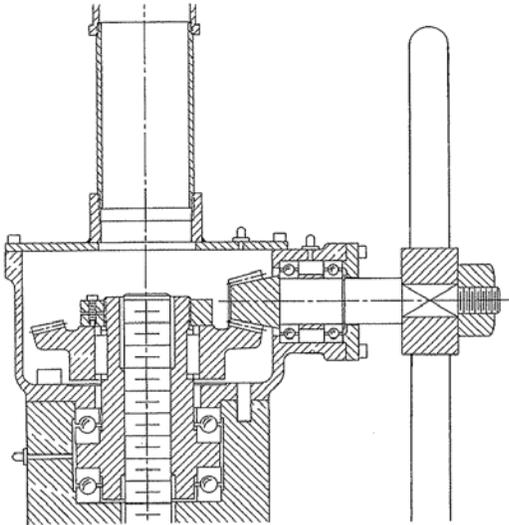
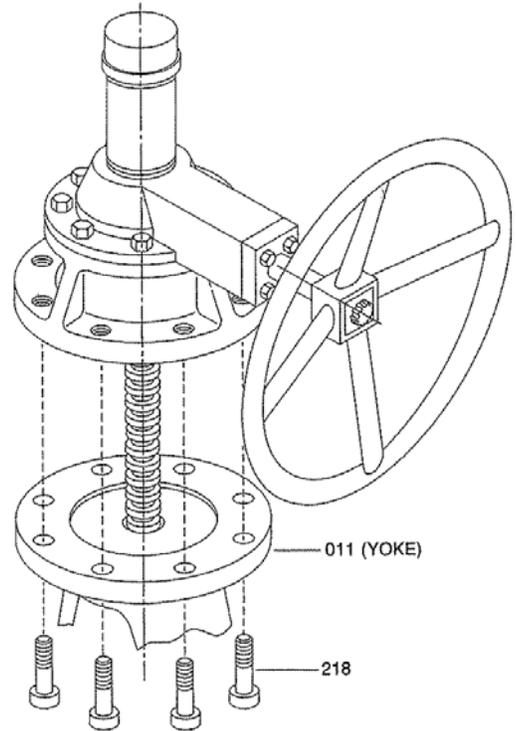

Figure 8
Figure 9
Two types of gear actuators have been supplied on Anchor/Darling valves. Earlier model valves may have been supplied with gear units manufactured by Anchor/Darling (Fig. 8). This type of unit requires complete disassembly in order to remove it from the yoke. Specific instructions on disassembly were provided with the original equipment. Anchor/Darling service engineers can provide duplicates of this information when provided with the original order or drawing number. Later model valves (Fig. 9) are supplied with self-contained units that can be separated from the yoke by removing the actuator capscrews (218). If a stem protector is provided, it should be removed. With the actuator properly supported, it may be raised off the yoke either by turning the handwheel or rotating the entire unit.